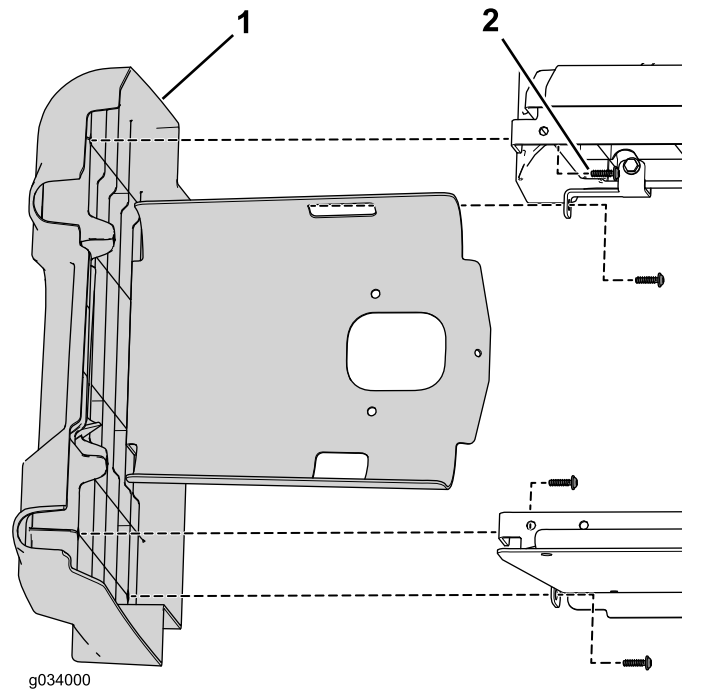

Figure 6
6. Remove the 4 screws securing the left side panel to the lower seat assembly (Figure 6).
4. Secure the left side panel using the previously removed 4 screws (Figure 6).